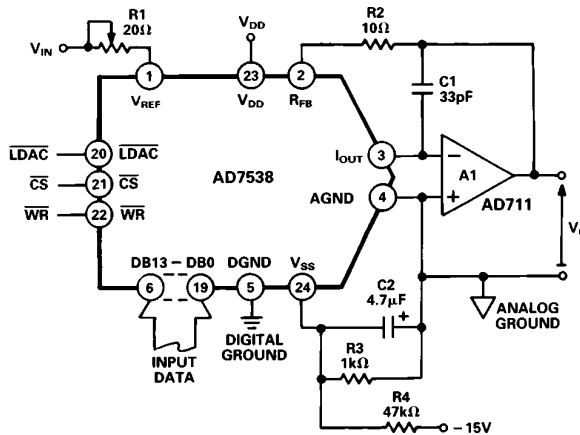
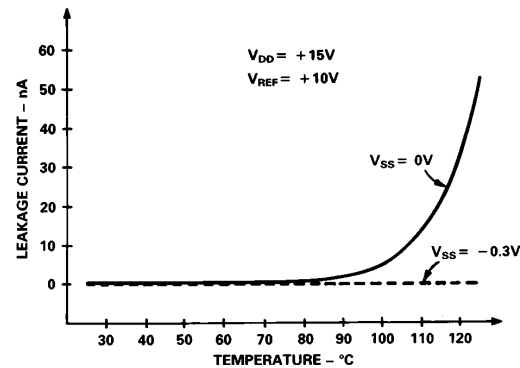

Figure 4. Unipolar Binary Operation
Figure 6. Graph of Typical Leakage Current vs. Temperature for AD7538
Figure 4 shows the circuit diagram for unipolar binary operation. With an ac input, the circuit performs 2 quadrant multiplication. The code table for Figure 4 is given in Table I.
$V_{SS}$  should be tied to a voltage of approximately  $-0.3$  V as in Figures 4 and 5. A simple resistor divider (R3, R4) produces approximately  $-300$  mV from  $-15$  V. The capacitor C2 in parallel with R3 is an integral part of the low leakage configuration and must be  $4.7 \mu\text{F}$  or greater. Figure 6 is a plot of leakage current versus temperature for both conditions. It clearly shows the improvement gained by using the low leakage configuration.
**Output Offset:** CMOS D/A converters in circuits such as Figures 4 and 5 exhibit a code dependent output resistance which in turn can cause a code dependent error voltage at the output of the amplifier. The maximum amplitude of this error, which adds to the D/A converter nonlinearity, depends on  $V_{OS}$ , where  $V_{OS}$  is the amplifier input offset voltage. To maintain specified accuracy with  $V_{REF}$  at 10 V, it is recommended that  $V_{OS}$  be no greater than 0.25 mV, or  $(25 \times 10^{-6}) (V_{REF})$ , over the temperature range of operation. The AD711 is a suitable op amp. The op amp has a wide bandwidth and high slew rate and is recommended for ac and other applications requiring fast settling.